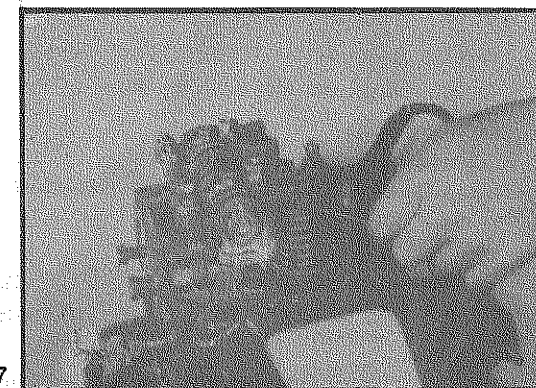

Fig. 17
obtained. Then retighten the two bolts. (Fig. 17 bis).
Fig 17 bis
a) Remove the rocker arm cover, slacken off the rocker arm nut and while the adjusting screw is being turned, check the valve clearance with a gauge (Fig. 17).